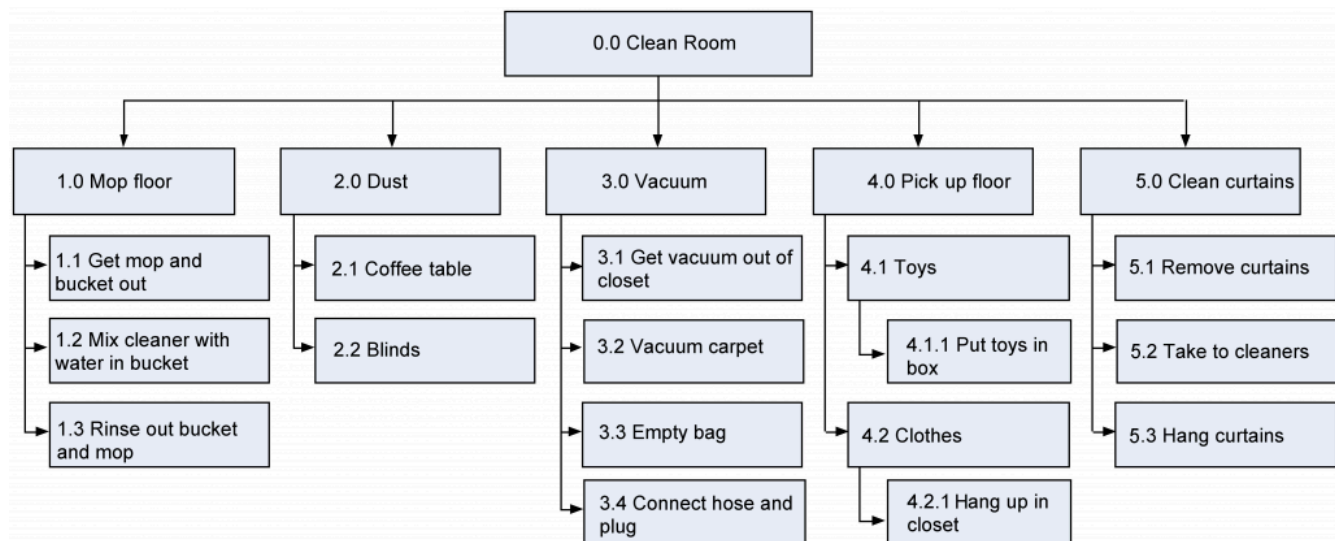

Figure 8.2 WBS format for cleaning a room.
- Figure 8.2 WBS Cleaning Room © Barron & Barron Project Management for Scientists and Engineers is licensed under a CC BY \(Attribution\) license